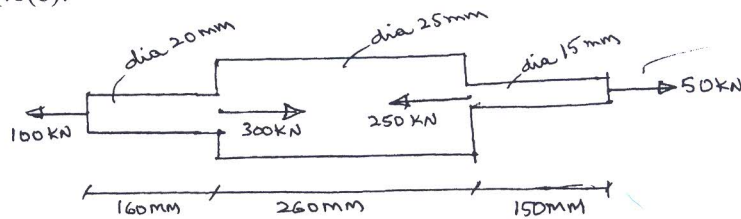

Fig.Q.1(b)
- b. Determine the net elongation of a circular bar of varying cross-section subject to forces as shown in Fig.Q.1(b). (08 Marks)